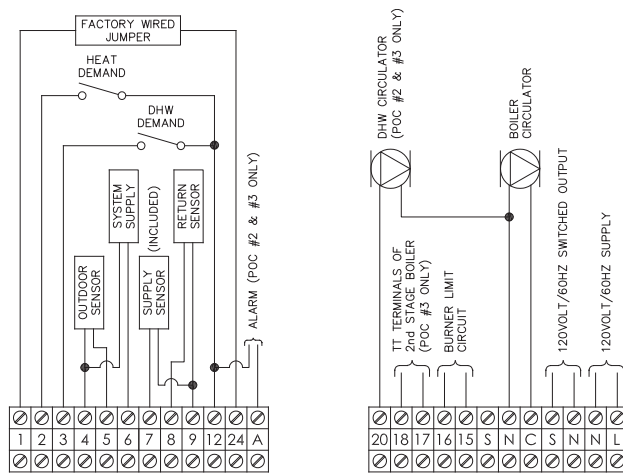

Figure 6.2: Customer Electrical Connections
2. Figure 6.2 shows the customer connections to the boiler control terminals. All customer connections are to be made to the labeled screw terminations in the electrical control panel.